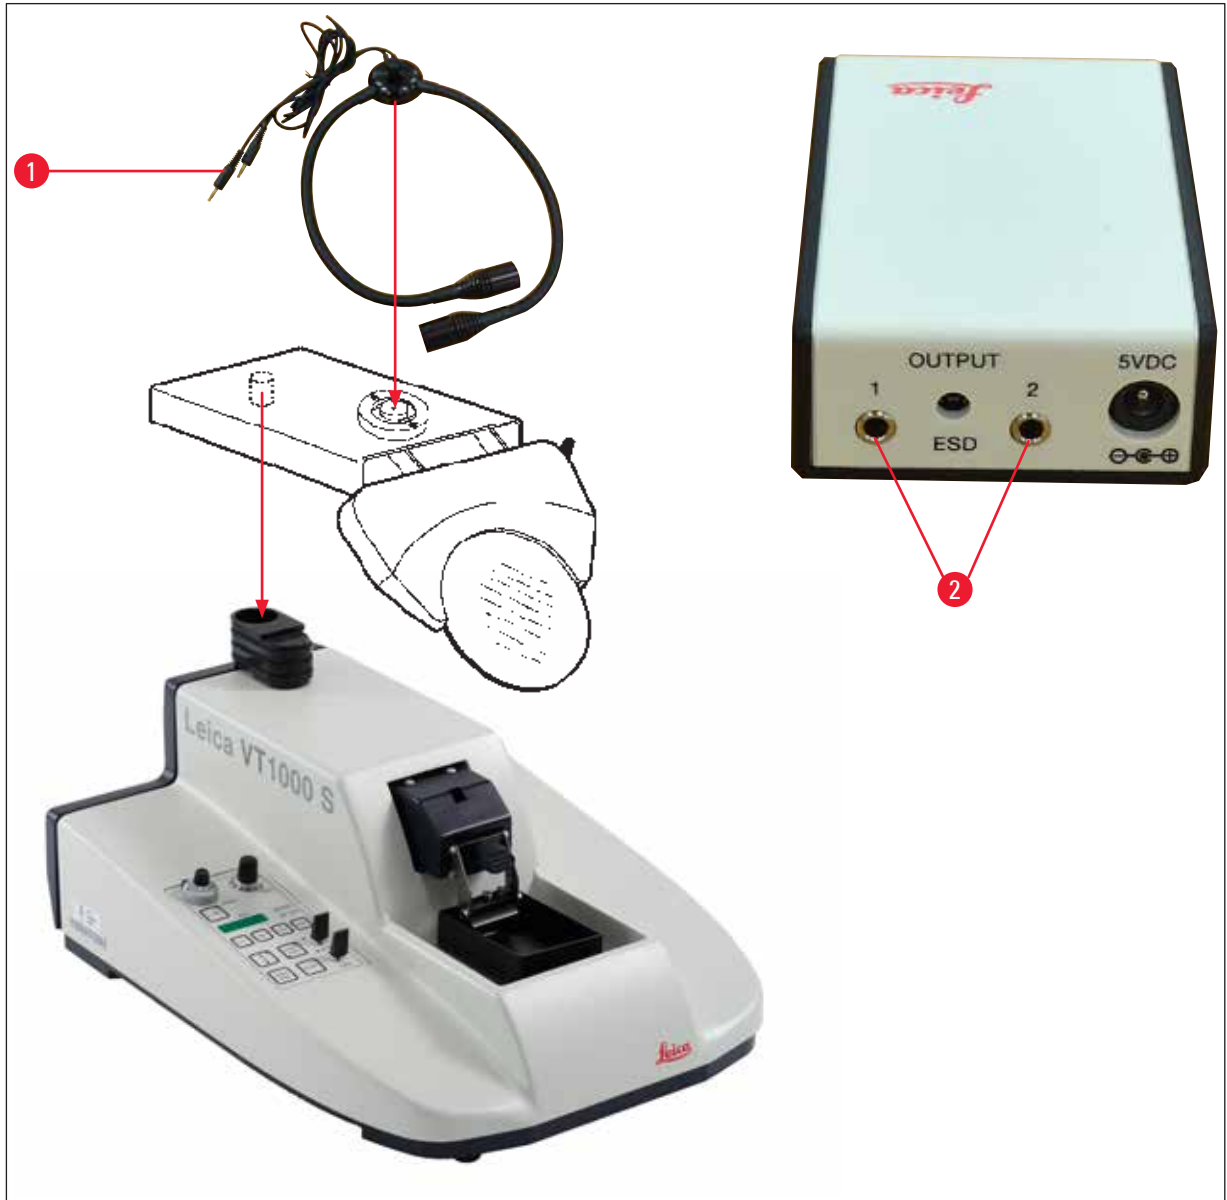

Fig. 9
7. Connect the magnifier support with Module LED Hi-Power spots, 2-arm, as shown in (→ Fig. 9). Insert plug (→ Fig. 9-1) of the Module LED Hi-Power spots, 2-arm, into socket (→ Fig. 9-2) at the Module Hi-Power spot, LED 1000.